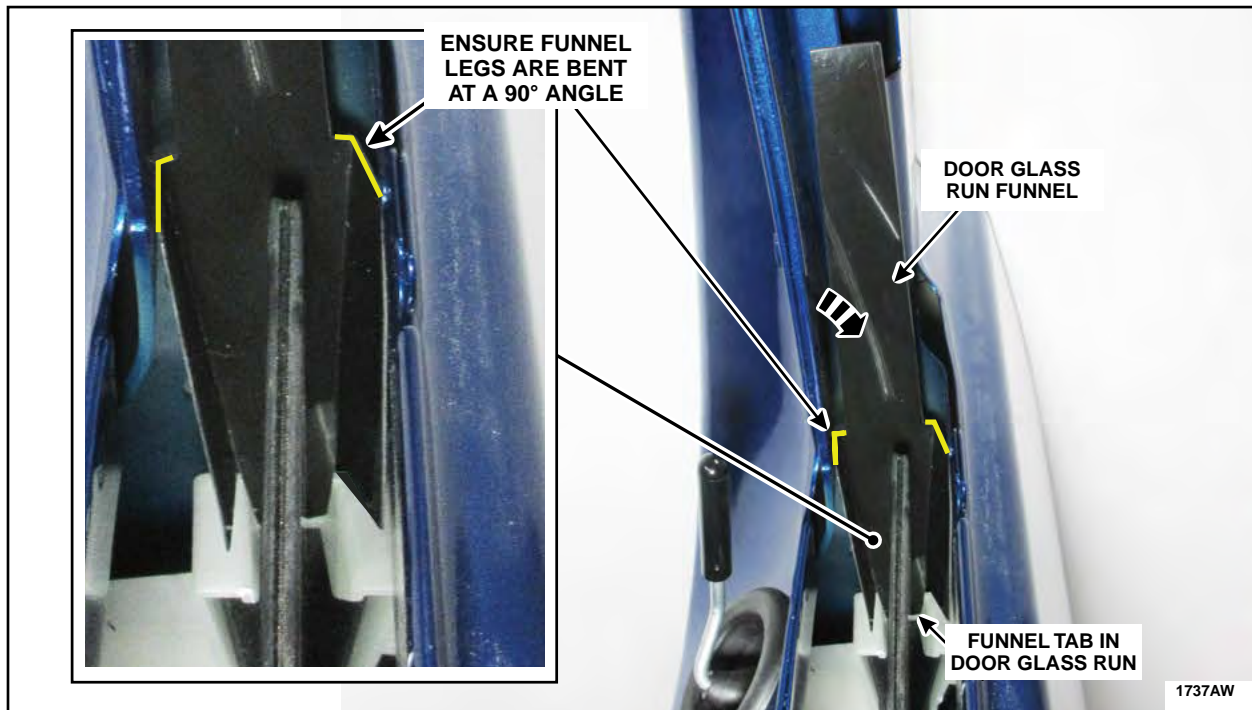

FIGURE 23
11. Install one of the appropriate length door glass run funnels ensuring that the lower tab is situated in the door glass run and the funnel sides sit at a 90° angle above the door glass run. See Figure 23. Refer to Attachment V for additional information.